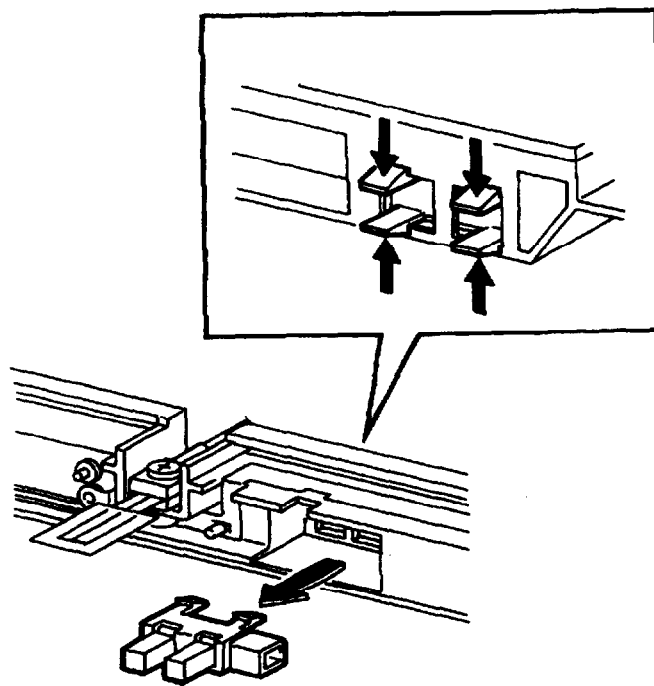

Figure 4-24. Removing the Fuser Exit Sensor
5. Press in on the retaining clips holding the Exit Sensor to the Fuser Sensor Assembly (Figure 4-24).
1. Position the Exit Sensor in the hole in the Fuser Sensor Assembly (Figure 4-24).